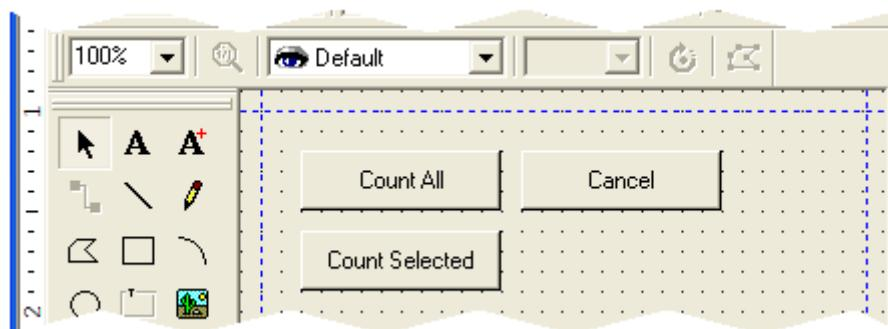

Figure 4-12. The Count All, Count Selected, and Cancel buttons.
- 7) Repeat steps (1) through (6) to create two more buttons with the following attributes (the result should look something like Figure 4-12):